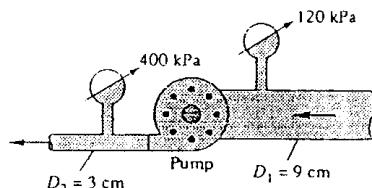

Fig. P3.139
**3.139** The horizontal pump in Fig. P3.139 discharges  $20^\circ\text{C}$  water at  $57 \text{ m}^3/\text{h}$ . Neglecting losses, what power in kW is delivered to the water by the pump?
**Solution:** First we need to compute the velocities at sections (1) and (2):